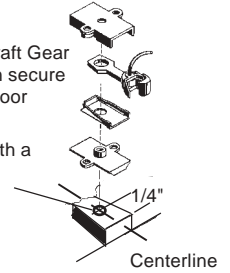

Fig.1
2. Drill and tap a 2-56 hole 1/4" from edge on centerline. Use a 2-56 screw of appropriate length to secure No.5® Coupler. See Fig.1.